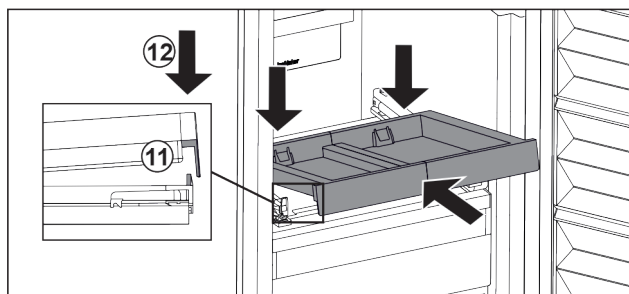

Fig. 29
- ▶ Slide it in at an angle. Make sure that the stop is behind the lug on both sides. *Fig. 29 (11)*
- ▶ Lower the pull-out board at the front. *Fig. 29 (12)*